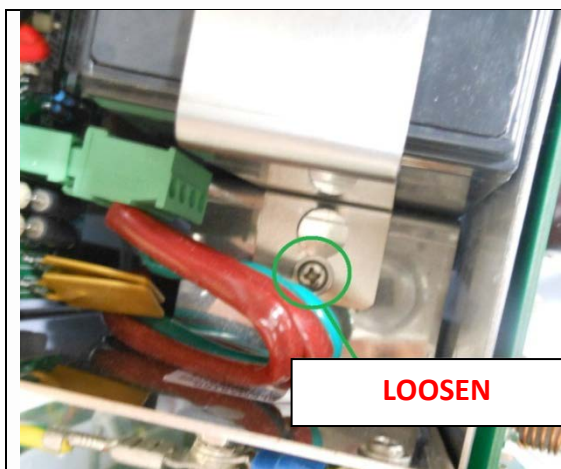

Fig. 10
10. Loosen the battery retention bracket screw (**Fig. 10**).